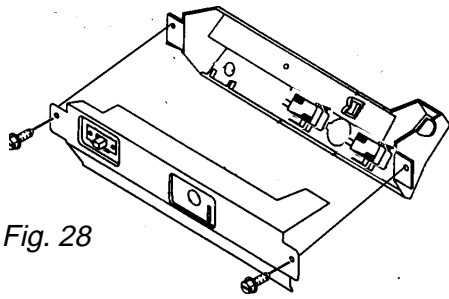

Fig. 28
2. Remove the two (2) hex-head screws securing the metal control panel cover to the dispenser housing. This will also free the control bracket from the housing although it will remain tethered to the freezer door by the wiring harness. (Fig. 28)